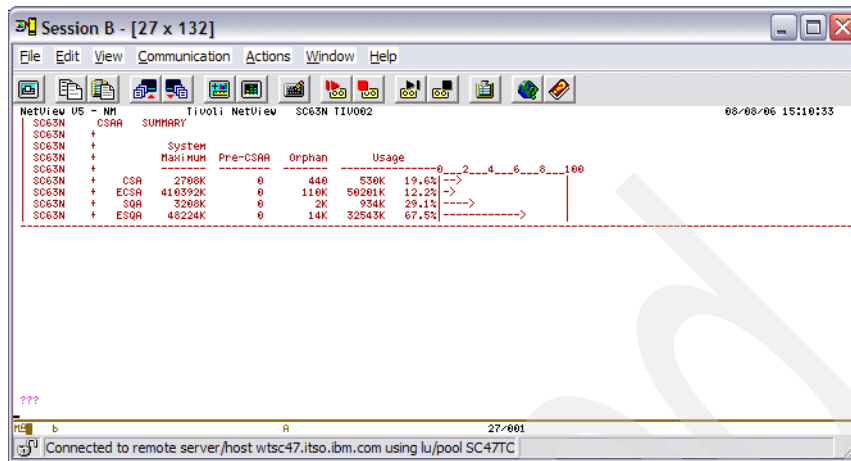

Figure 3-13 CSAA command response
- Requesting OMEGAMON for z/OS common storage usage is achieved using the OMEGAMON command CSAA. The NetView command that we invoke is INGOMX EXECUTE,NAME=OMIISC66,CMD=CSAA. Figure 3-13 on page 47 shows the resulting display.